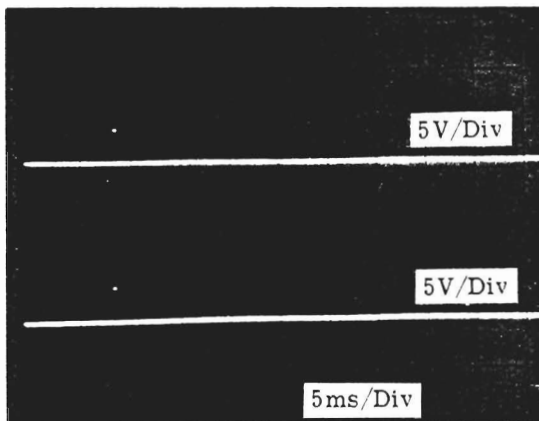

Figure 5-11. K1 and K2 Pulse
Figure 5-11 and 5-12
- 5) The K1 and K2 pulses displayed should appear about 10 ms after starting of the sweep as shown in Figure 5-11.